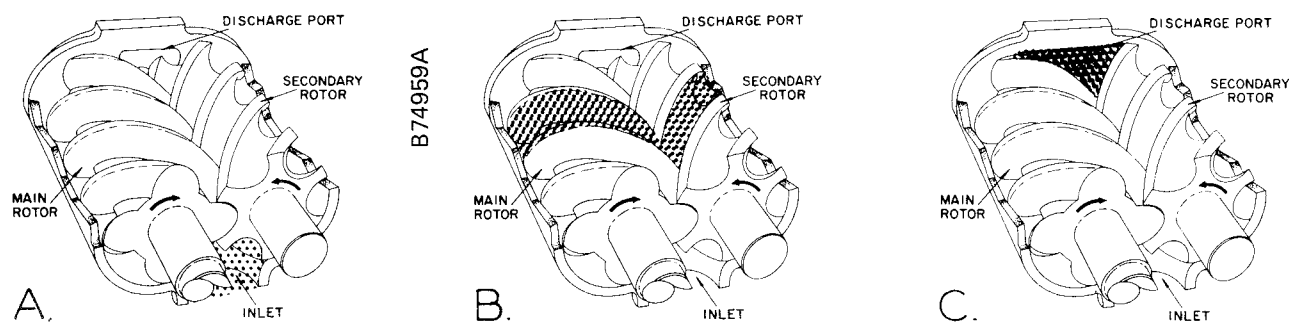

FIGURE 1-1. — COMPRESSION CYCLE
COMPRESSION PRINCIPLE (Figure 1-1) — Compression is accomplished by the main and secondary rotors synchronously meshing in a one-piece cylinder. The main rotor has four (4) helical lobes 90° apart. The secondary rotor has six (6) matching helical grooves 60° apart to allow meshing with main rotor lobes.
The air inlet port is located on top of the compressor cylinder near the drive shaft end. The discharge port is near the bottom at the opposite end of the compressor cylinder. *Figure 1-1 is an inverted view to show inlet and discharge ports.* The **compression cycle** begins as rotors unmesh at the inlet port and air is drawn into the cavity between the main rotor lobes and the secondary rotor grooves (A). When the rotors pass the inlet port cutoff, air is trapped in the interlobe cavity and flows axially with the meshing rotors (B). As meshing continues, more of the main rotor lobe enters the secondary rotor groove, normal volume is reduced and pressure increases. Oil is injected into the cylinder by proprietary means to remove the heat of compression and seal internal clearances. The Electra-Saver II utilizes Gardner-Denver’s exclusive Intensive Injection System to feed coolant into the compression chamber through dozens of small injection ports. This greatly improves the rate of heat exchange between the air/oil mixture with most of the injection and heat transfer occurring where the air has reached its highest pressure and greatest temperature. Hot spots in the compression cycle are eliminated. Volume reduction and pressure increase continues until the air/oil mixture trapped in the interlobe cavity by the rotors passes the discharge port and is released to the oil reservoir (C). Each rotor cavity follows the same “fill-compress-discharge” cycle in rapid succession to produce a discharge air flow that is continuous, smooth and shock-free.